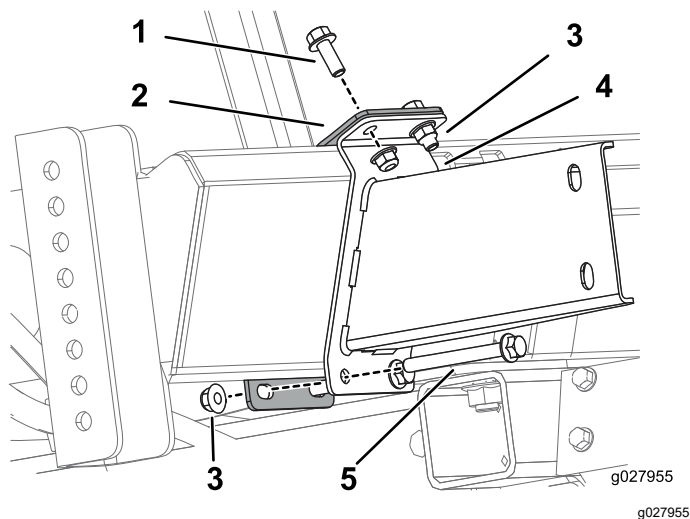

Figure 11
3. Mount the lower bracket and lower support bracket to the frame using 2 bolts (3/8-16 inch), 2 bolts (3/8-16 x 3 1/2 inch), and 4 flange nuts (3/8-16 inch) as shown in Figure 11.